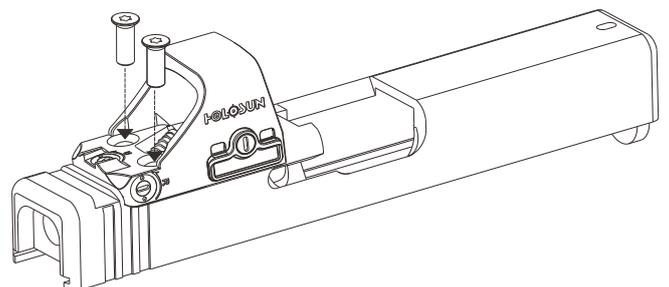

Fig 5
2. Use either the included screws or screws supplied with your slide or from your gunsmith and tighten to 15 INCH/lbs using a non-permanent (medium/blue) thread locker. (Fig5)